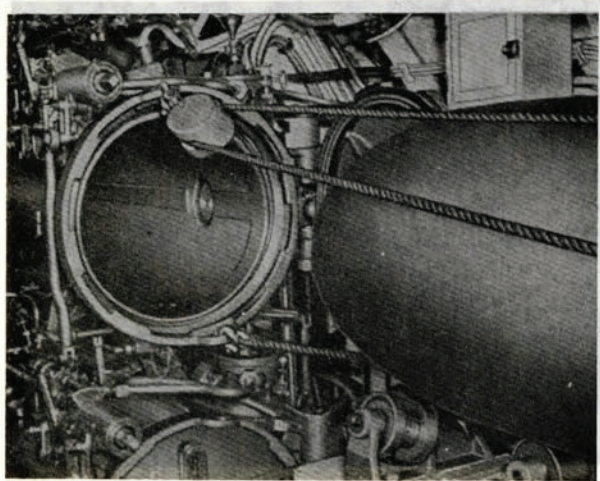

Figure 226—Easing Torpedo Along Runways.
- d. Ease the torpedo along the runways, figure 226, and into the tube until guide stud on top of